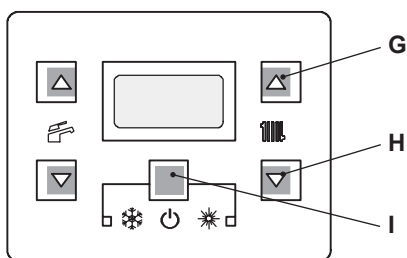

Figure 11.5
- 16 To enter in the parameters setting mode press sequentially and hold in the 3 keys (G - H - I Figure 11.5) for 10 second until the display shows Figure 11.6.
- 17 Press keys G and H (Figure 11.5) at the same time until the display shows the letters LP that alternate with the heating water temperature value (e.g. 45), indicating the activation of the "chimney sweep function" at minimum output (Figure 11.7).
- 24 Press keys G - H - I (Figure 11.5) at the same time again to exit the "chimney sweep mode" and return to the previously